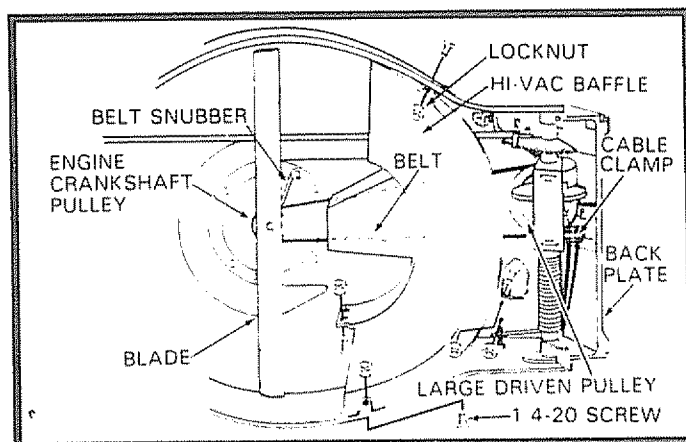

FIG. 24
- Remove the Hi-Vac Baffle, See Fig. 24 for fastener locations.